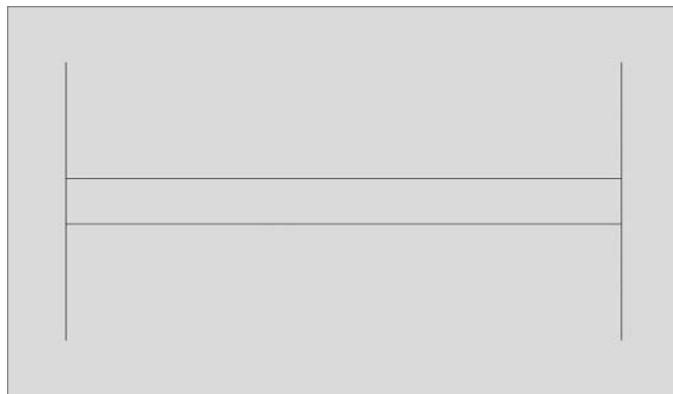

FIGURE 7.46 The result of the modifications to the A-GLAZ block
3. Use the OFFSET command to offset the glazing line 0.5" (13 mm) up and down. Then erase the original horizontal line (see Figure 7.46).